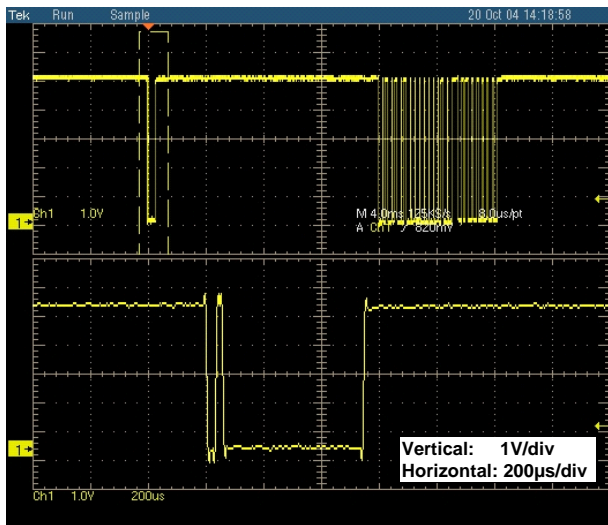

FIGURE 14. POWER-ON BREAK SIGNAL TO WAKE-UP THE ISL6296A FROM SLEEP MODE
and send back a break (refer to the datasheet for more explanation of the narrow power-on break). Figure 14 illustrates the captured waveforms. If the user does not know if the device is in the sleep mode or is awake, the “regular break” option should be chosen, because the long break signal will still wake up a device in sleep mode, or will be ignored if the device is already awake. The send without a break signal can be an option if the user knows for sure that the device is not in the sleep mode.
Access tab as an option of the *Send* button. When this option is selected, the host sends out a 'power-on break' before sending the instruction frame. Figure 14 illustrate the two 'break' signals. The narrow one was sent by the host and the wider one was the one returned from the ISL6296A (approximately 480µs). From the 480µs 'break' signal, the BT can be calculated as follows:
1. If the device is in the sleep mode, send a 'power on break' with a read instruction in the XSD Access tab to measure the returned 'break' signal for ISL6296A, as shown in Figure 14.